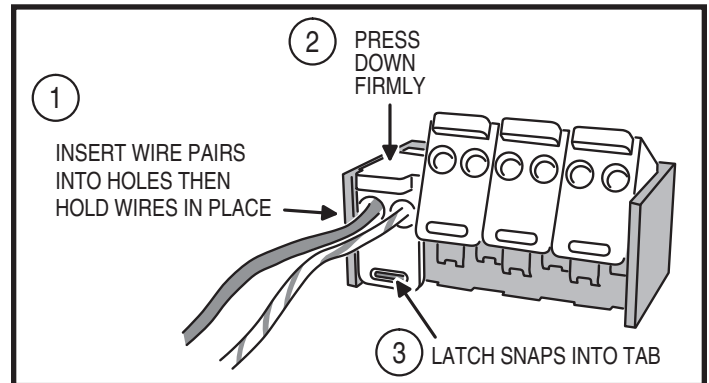

Figure 11. Latching Cat-5 Connector
3. Open the four clear plastic wire latches on a connector (see Figure 11).
4. Observing the color code label on the connector, insert a wire pair (solid color wire and wire with the same color stripe) completely into the two wire holes in the clear plastic wire latch for that pair color (see Figure 11). **BE SURE THE WIRES ARE COMPLETELY INSERTED.**
5. Hold the wires completely inserted while pressing down firmly on the clear plastic wire latch. The latch will click twice as the wires are being seated into the internal insulation displacement wire guides. See Figure 11. **VERIFY THAT THE TAB ON THE CONNECTOR BODY IS INSIDE THE TAB SLOT ON THE CLEAR PLASTIC WIRE LATCH.**